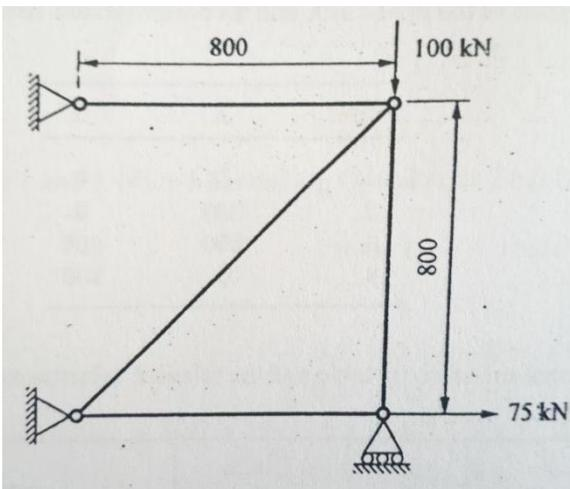

Fig.1
2. Explain (1) plane stress (2) plane strain (3) Boundary Conditions.
3. A four bar trusses shown in fig.1 assuming that each element cross section area is 400 mm^2 and modulus of elasticity is 200 Gpa , Determine the deflection, reaction forces and stress in each element.